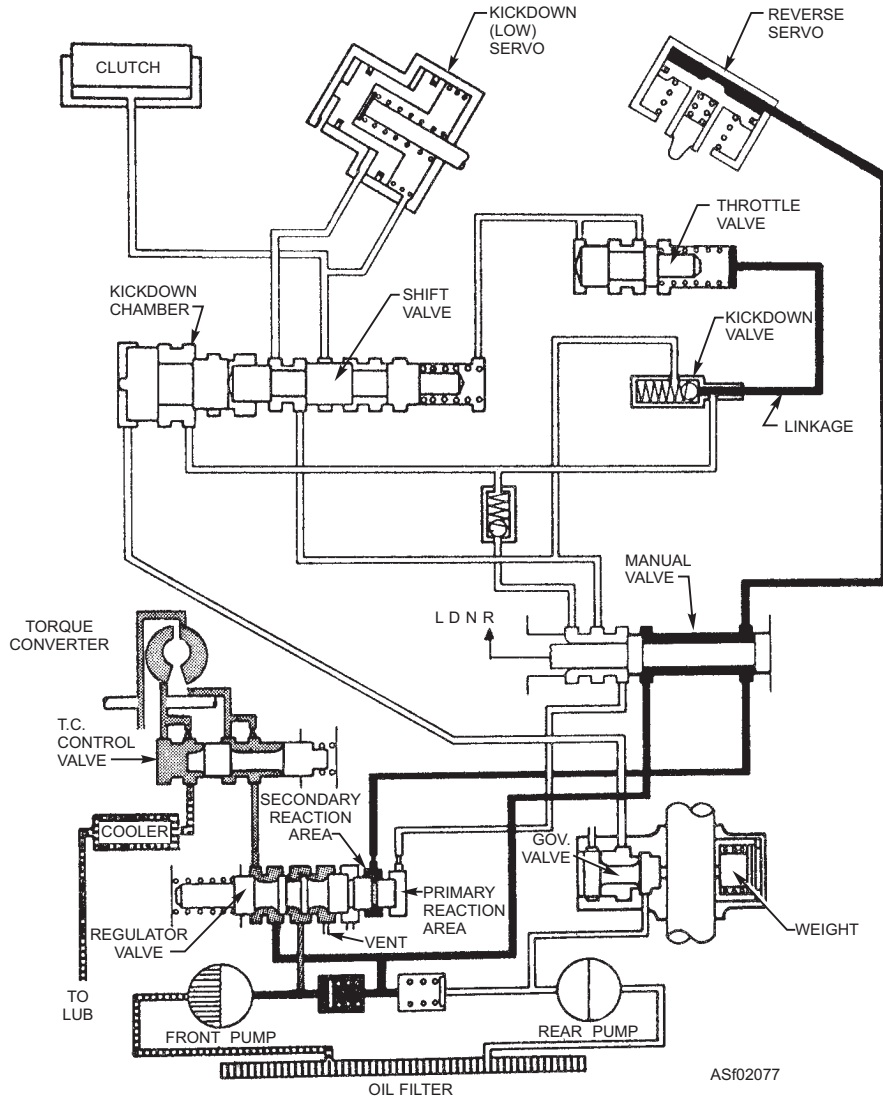

Figure 2-77.—Reverse (R) operating range.
To operate the vehicle in reverse, the operator moves the manual selector lever to the reverse (R) position, as shown in figure 2-77. Linkage moves the manual selector valve, opening a passage leading to the reverse operating unit. At the same time, an oil passage to the regulator primary reaction area is closed, and an
As shown in figure 2-77, the oil passage to the primary reaction area of the regulator is closed off. With this condition, and having oil from the pump directed to the small land area of the regulator valve,